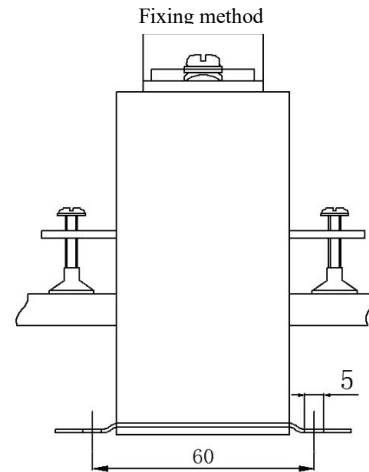

Fig 3
③ Installation Instructions:
- When fixing to the bottom plate: take two feet (supplied with the product) and insert them into the foot sockets on the bottom plate as shown in Figure 3. The center distance of the installation hole is  $60 \times 46.8$ ; the diameter of the foot installation hole is  $\Phi 5.0$ ; the transformer can be fixed on the bottom plate with M5 screws;
- When fixing on the busbar: take a foot with M5 holes (supplied with the product) and insert it into the busbar foot slot as shown in Figure 3. The center distance of the M5 holes is 59, and the transformer can be fixed on the busbar with M5 screws.